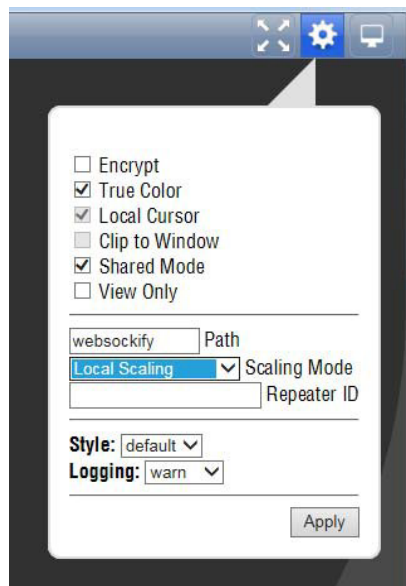

Figure 9: noVNC Settings menu
3. In the Control bar, click the **Settings** icon () to open the Settings menu. (See Figure 9.)